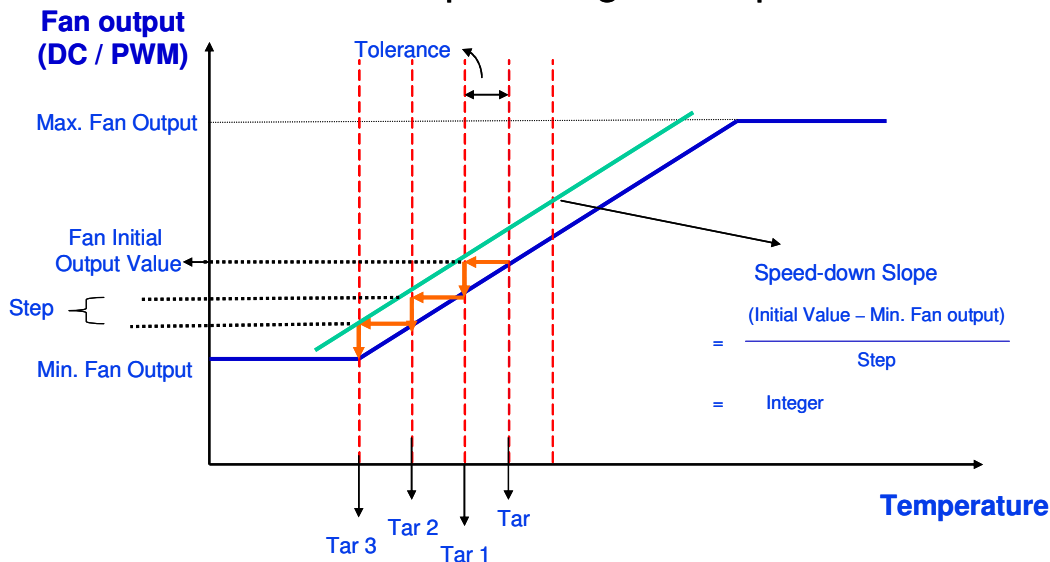

Figure 7.11
- (7) In the case that currently measured temperature goes below (Target Temperature – Temperature Tolerance), which is shown in Figure 7.11, fan speed slows down by one step. “Step” here refers to the value in the CPUFANOUT Output Value Select Register, Bank0 Index03h or Index61h.
- (8) Meanwhile, original Target Temperature dynamically shifts to (Target Temperature – Temperature Tolerance), and new Target Temperature, named Target Temperature 1, is formed. In other words, Target Temperature 1 equals original Target Temperature minus Temperature Tolerance.
- (9) If the currently measured temperature is within the (Target Temperature 1 \pm Temperature Tolerance) then, the fan speed remains constant. Otherwise, fan speed slows down by one step again. Target Temperature then dynamically shifts to (Target Temperature 1 – Temperature Tolerance), and new Target Temperature again, named Target Temperature 2, is formed.
- (10) The fan-slow-down and Target Temperature comparison-then-shift process continue until currently measured temperature locates within (Target Temperature $X \pm$ Temperature Tolerance), or fan output speed hits its minimum speed.
- (11) Please be noted that “Speed-down Slope” shown in the Figure 7.11 must be an integer. In other words, $\frac{InitialOutput - Min.FanOutput}{Step}$ must be an integer; otherwise, it may lead to register overflow.
- (12) In the case that the temperature is always lower than (Target Temperature $X -$ Temperature Tolerance), and, for some reason, the fan speed would like to be kept at the minimum speed, Stop Value, instead of being stopped, set register Bank0 12h.bit 4. Set bit 4 to 1, fan speed will always keep at the value set in Bank0 Index09h when temperature is always below (Target Temperature $X -$ Temperature Tolerance). Set bit 4 to 0, fan speed will decrease to 0 after a time period set in Bank0 Index 0Dh.